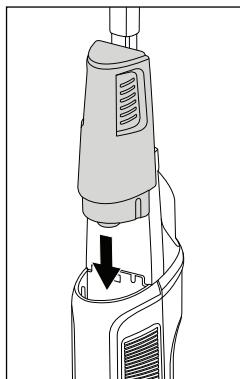

Fig. 11
- ◆ Flip the fresh water tank ⑪ over and slide it back into the opening at the top on the front of the appliance (see fig. 11).
- ◆ Push the fresh water tank ⑪ down along the grooves in the opening until the fresh water tank ⑪ audibly snaps into place and sits firmly in the appliance.